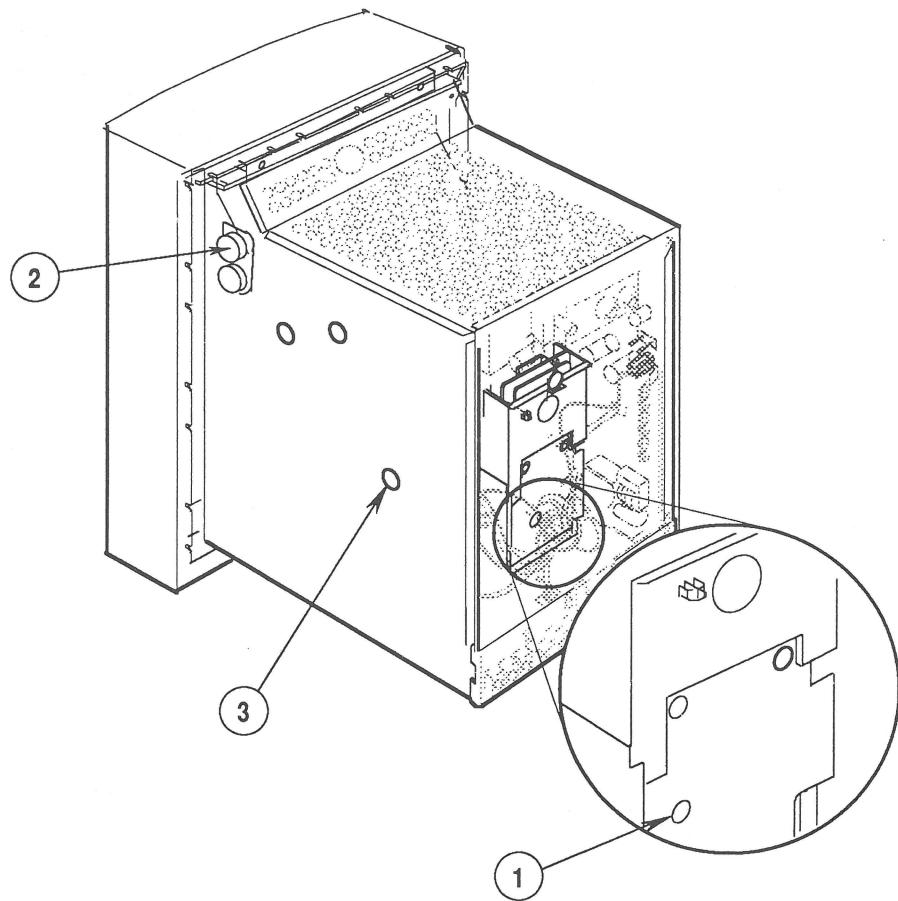

FIGURE 13
7. Using the insulated screwdriver, turn the CUTOFF control (Figure 13, #1) clockwise until retrace lines are just visible on the display. Then back off (turn counterclockwise) the CUTOFF control until the retrace lines **just completely disappear**.
9. Set the BRIGHTNESS control (Figure 13, #2) to the detent position. (To identify the detent position, turn the knob and locate the place at midrange where the knob hesitates.)
10. Using the insulated screwdriver, adjust the sub-brightness (SUB BRIGHT) control (Figure 13, #3) so that the first bar (only) is completely black. The first bar should match the black border at the top 1/8 inch of the screen.